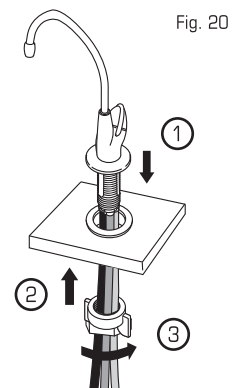

Fig. 20
3. **Holding** the foam gasket in place against the faucet body, lower the **eSpring** Faucet stem and tubes through the hole in the sink ledge or counter **1**. With an assistant holding the faucet in place, **reach up** from below the counter and **slide** the wing nut onto the threaded faucet **2**. **Position** the faucet in the desired orientation and **tighten** the wing nut to secure the faucet in place **3** (Fig. 20).